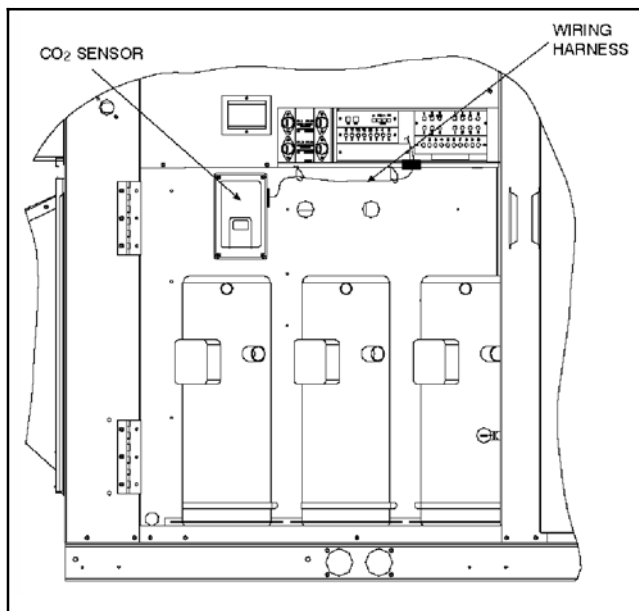

Fig. 3 - CO₂ Sensor Location - PGH/PAH210-300
For sensor and aspirator box installation locations see Figures 3, 4, and 5.
3. Find the plug located above compressor C1. If the unit does not have a third compressor, the sensor is installed to the left of compressor B1. Remove the plug and discard. Cut a hole in the insulation located behind the partition. See Fig. 3.
8. Route wiring harness from the economizer controller to the sensor mounting location. See Fig. 3. Be sure to route the harness through the bottom of the mounting plate and through the snap bushing.